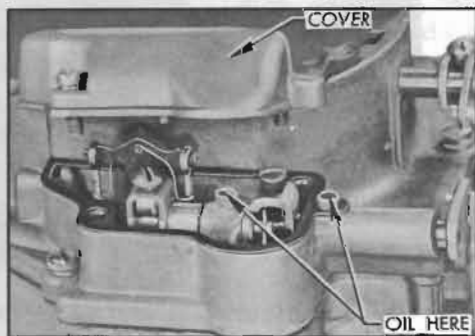

Figure 1-11—Countershaft Lubrication—Carter
3. *Pump Operating Countershaft — Carter Carburetor Only.* On 2-barrel carburetors, remove dust cover and apply oil in two oil holes above countershaft. See figure 1-11.